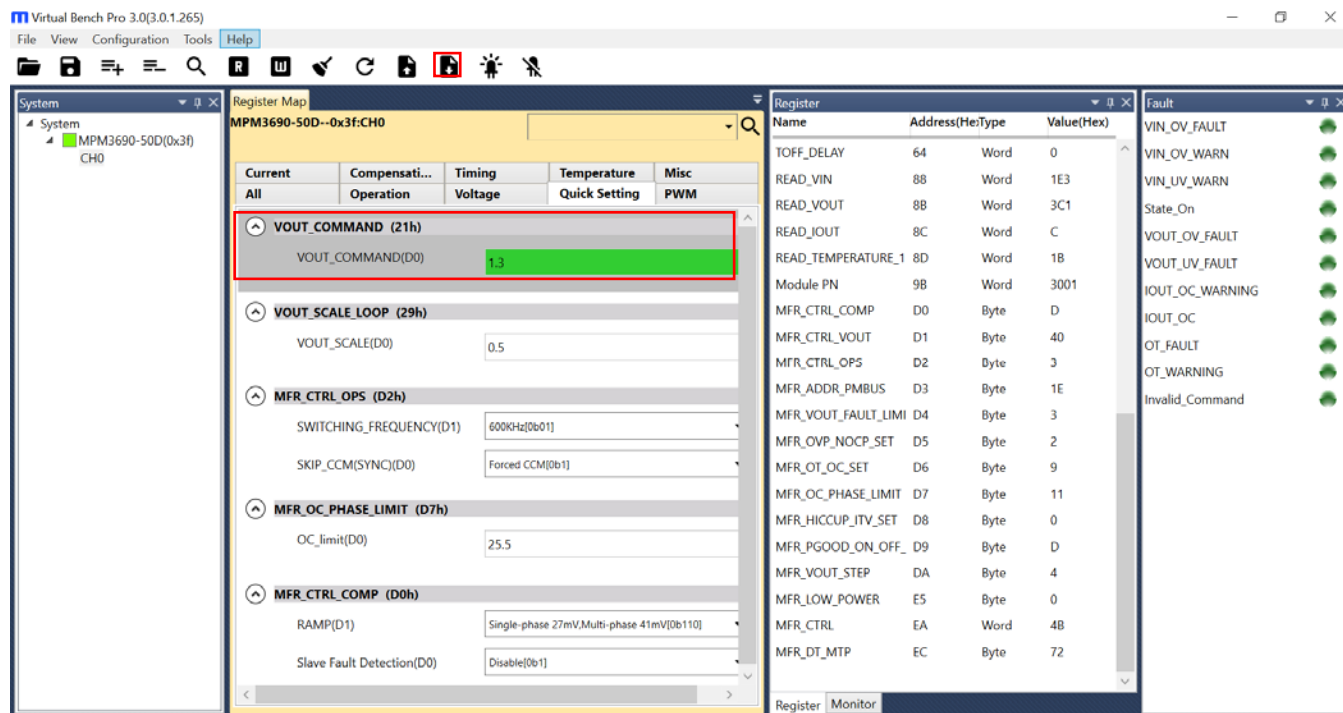

Figure 7: Write to the MTP
9. To save the values to the MTP, click the “Write to MTP” button and wait until the writing action is complete (see Figure 7). Shut down the power supply to the EVB, wait 3 seconds, then start it up again for the new configuration to take effect.